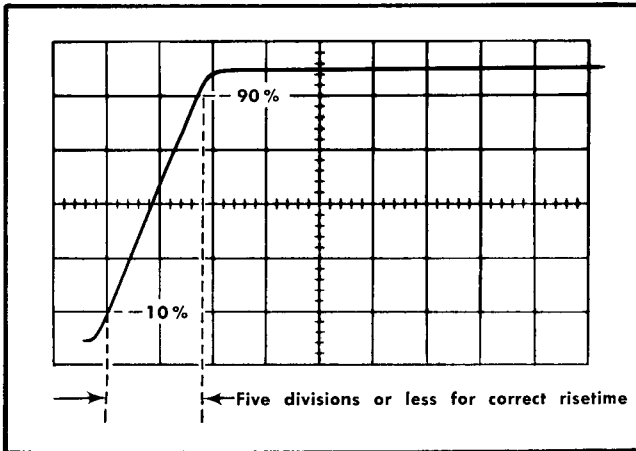

Fig. 6-65. Typical CRT display when checking calibrator risetime.
d. CHECK—CRT display for five divisions or less between the 10% and 90% points on the leading edge of the calibrator waveform (one-microsecond or less risetime; see Fig. 6-65).